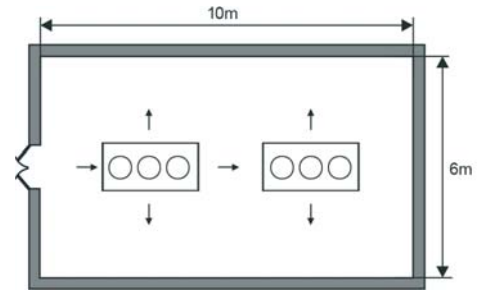

Fig. 5.3
3. Based on the cold room dimensions (see Fig. 5.3), we need two unit coolers;